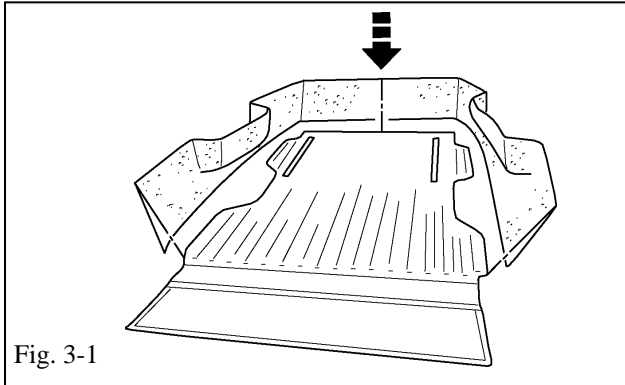

Fig. 3-1
- (a) Align the sides of the bed liner as shown. **NOTE: BED LINER FLOOR IS FACE DOWN FOR THIS OPERATION.** (Fig 3-1)